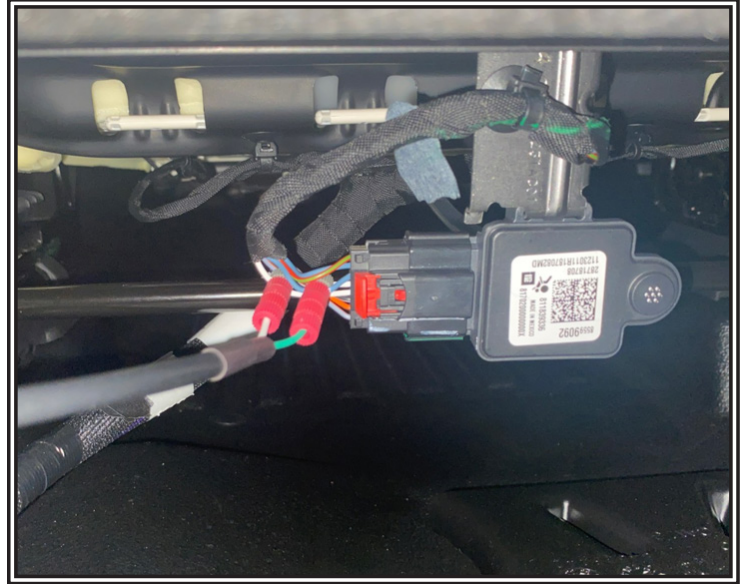

Figure 6
Step 2. Using provided Posi-taps connect green wire from OBDII module into one of the blue wires and connect the white wire from OBDII module to one of the white wires. See FIGURE 6. **Note:** Selection of the paired blue and white wires does not effect operation of the OBDII module.